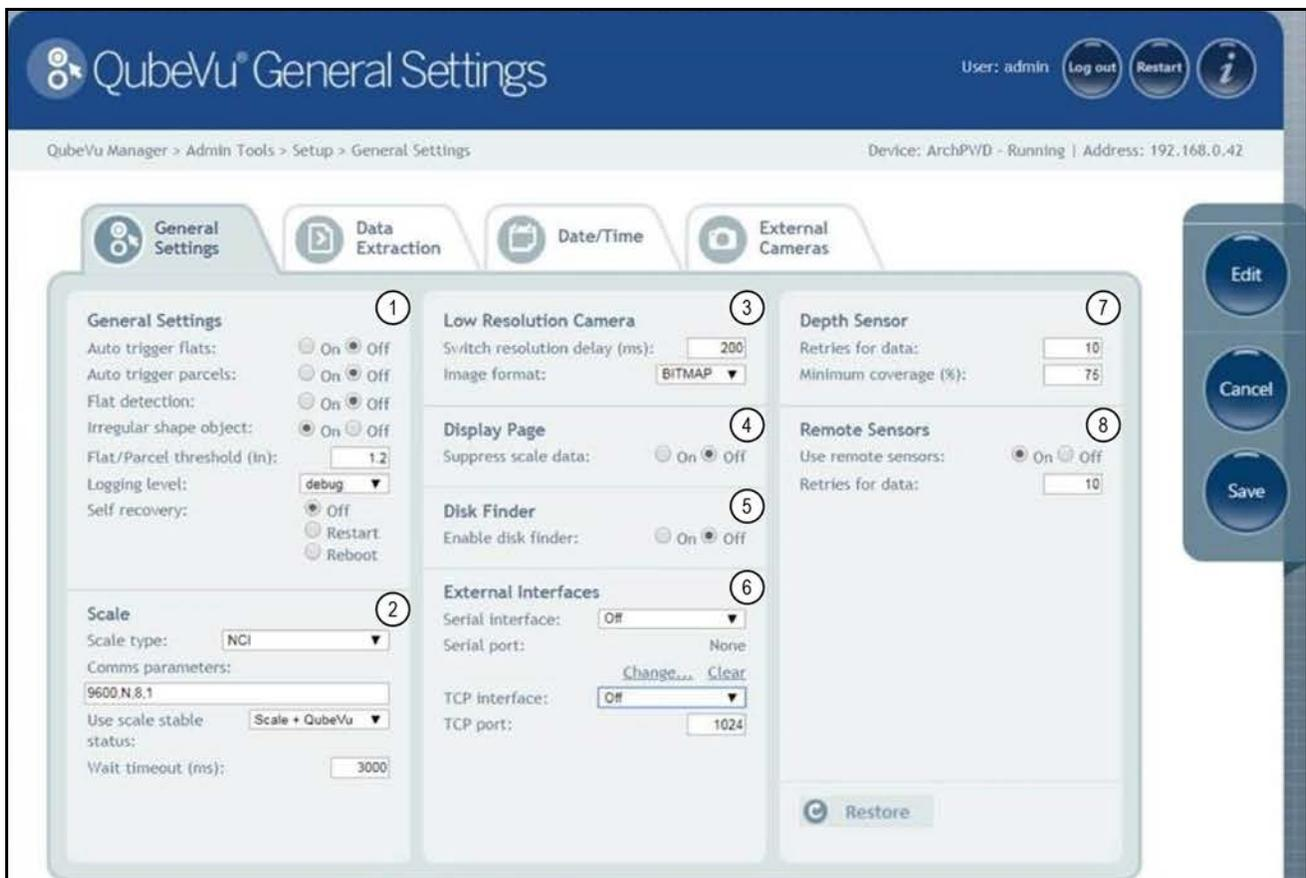

Figure 6-2. General Settings Tab
1. Select QubeVu or Cubiscan 110/150 from the serial interface drop-down list (Item 6 in Figure 6-2 on page 18).